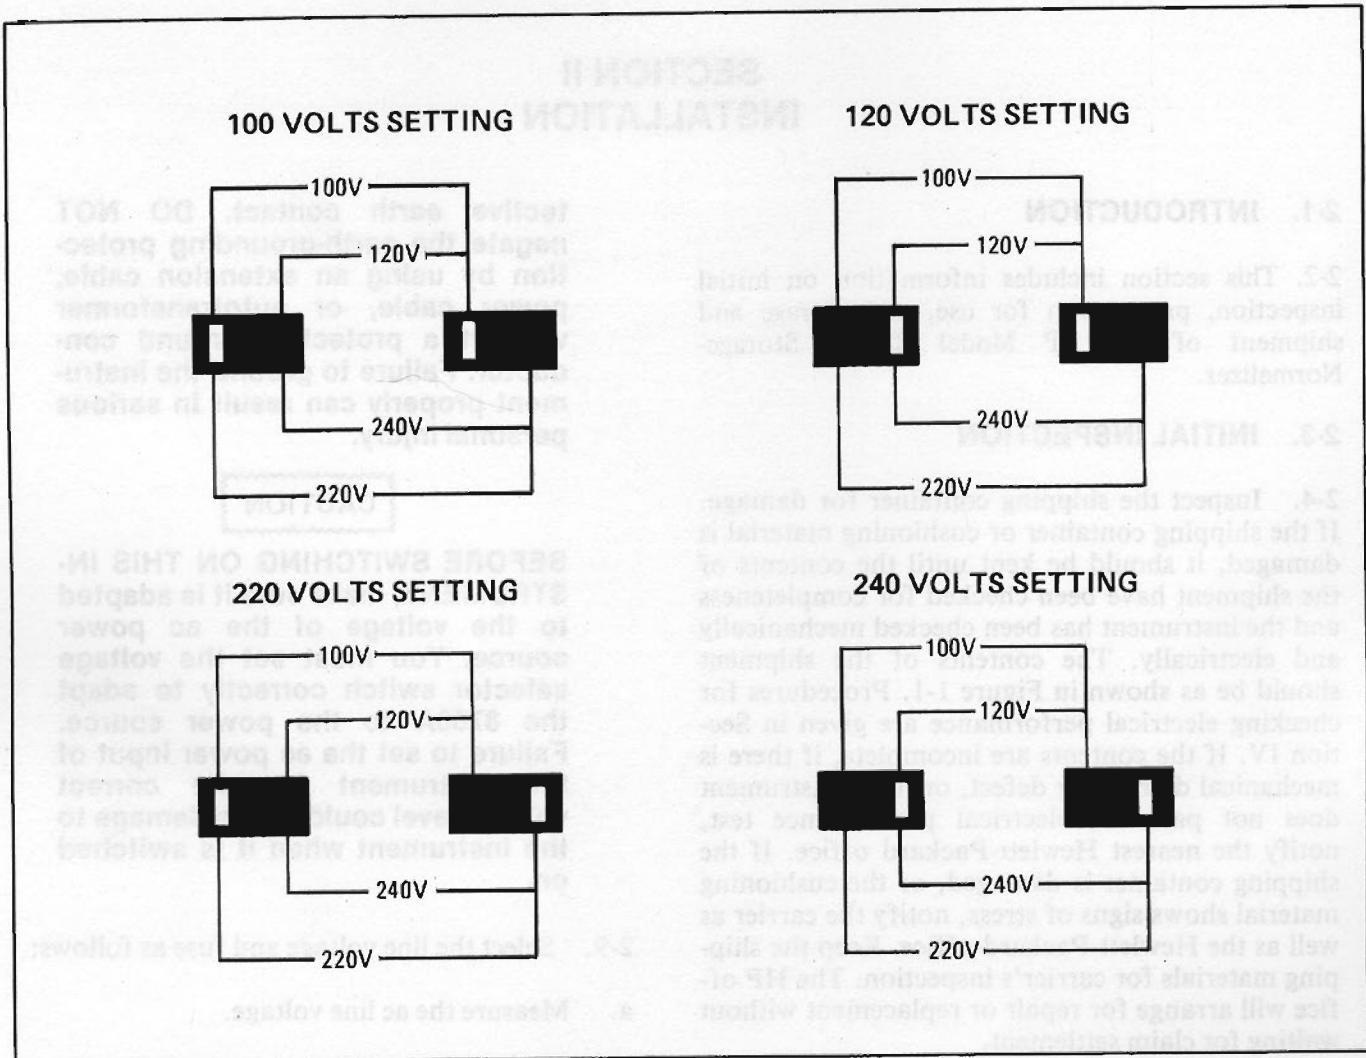

Figure 2-1. AC Power Level Selector Switch Positions
- b. Refer to Figure 2-1. At the instrument's rear panel ac power level switch, select the line voltage (100V, 120V, 220V, 240V) closest to the voltage you measured in step a. Line voltage must be within $+5\%$ or -10% of the voltage setting. If it is not, you must use an autotransformer between the ac source and the 8750A.